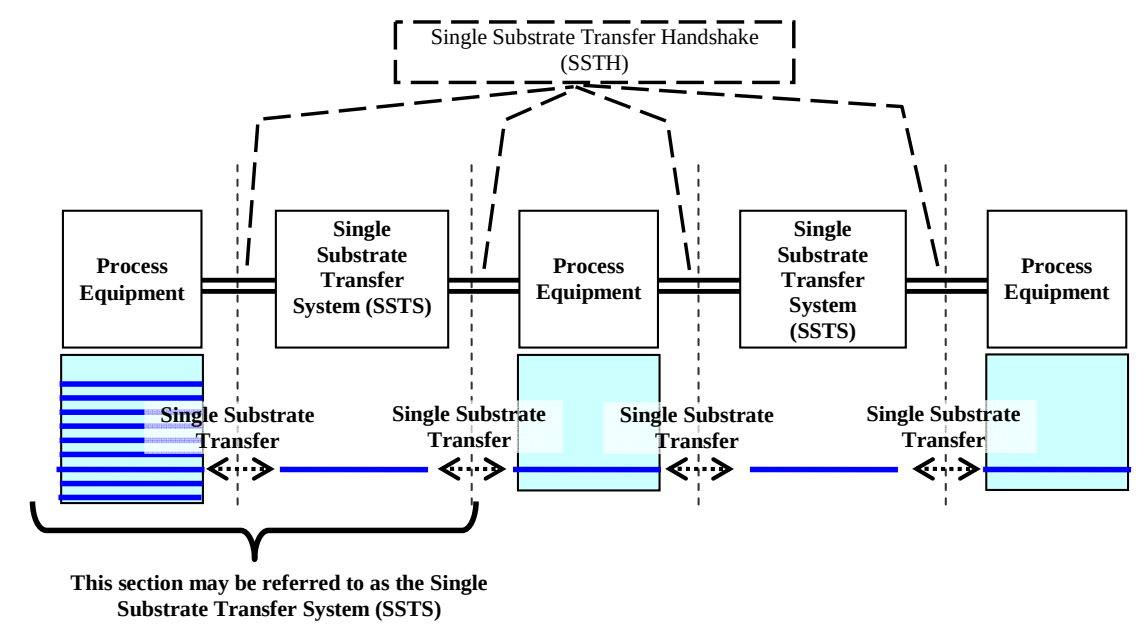

Figure 1
4.1 Due to the migration to large glass substrate sizes in FPD production, the demand for a single substrate transfer process is increasing. The mechanism for the transfer of single substrates is assumed to be similar to the process shown in Figure 1 Example of the Control Mechanism between a Single Substrate Transfer System and Equipment; however, the handshake method employed between a single substrate transfer system and the process equipment is not clearly defined. Therefore, this standard defines the handshake method for transferring single substrates between a single substrate transfer system and the process equipment.